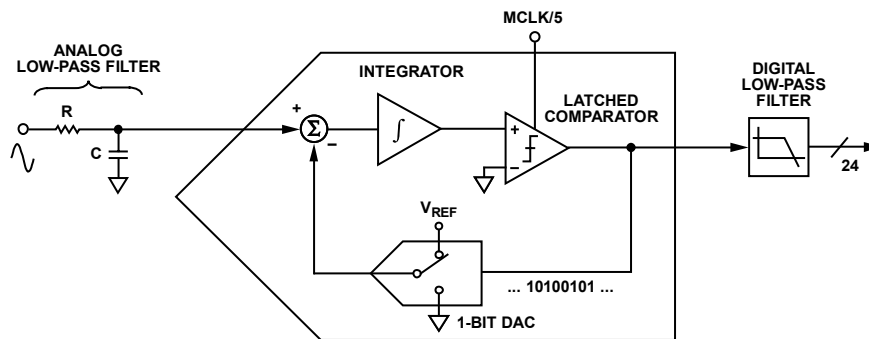
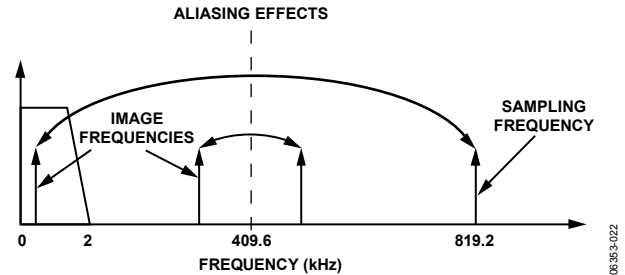

Figure 41. First-Order Σ - Δ ADC
Figure 42. ADC and Signal Processing in Current Channel Outline Dimensions
For simplicity, the block diagram in Figure 41 shows a first-order Σ - Δ ADC. The converter is made up of the Σ - Δ modulator and the digital low-pass filter.
Figure 41 also shows an analog low-pass filter (RC) on the input to the modulator. This filter is present to prevent aliasing, an artifact of all sampled systems. Aliasing means that frequency components in the input signal to the ADC, which are higher than half the sampling rate of the ADC, appear in the sampled signal at a frequency below half the sampling rate. Figure 42 illustrates the effect. Frequency components (the black arrows) above half the sampling frequency (also known as the Nyquist frequency, that is, 409.6 kHz) are imaged or folded back down below 409.6 kHz. This happens with all ADCs regardless of the architecture. In the example shown, only frequencies near the sampling frequency (819.2 kHz) move into the band of interest for metering (40 Hz to 2 kHz). This allows the use of a very simple LPF (low-pass filter) to attenuate high frequency (near 819.2 kHz) noise and prevents distortion in the band of interest.
For conventional current sensors, a simple RC filter (single-pole LPF) with a corner frequency of 10 kHz produces an attenuation of approximately 40 dB at 819.2 kHz (see Figure 42). The 20 dB per decade attenuation is usually sufficient to eliminate the effects of aliasing for conventional current sensors. However, for a di/dt sensor such as a Rogowski coil, the sensor has a 20 dB per decade gain. This neutralizes the -20 dB per decade attenuation produced by one simple LPF. Therefore, when using a di/dt sensor, care should be taken to offset the 20 dB per decade gain. One simple approach is to cascade two RC filters to produce the -40 dB per decade attenuation needed.